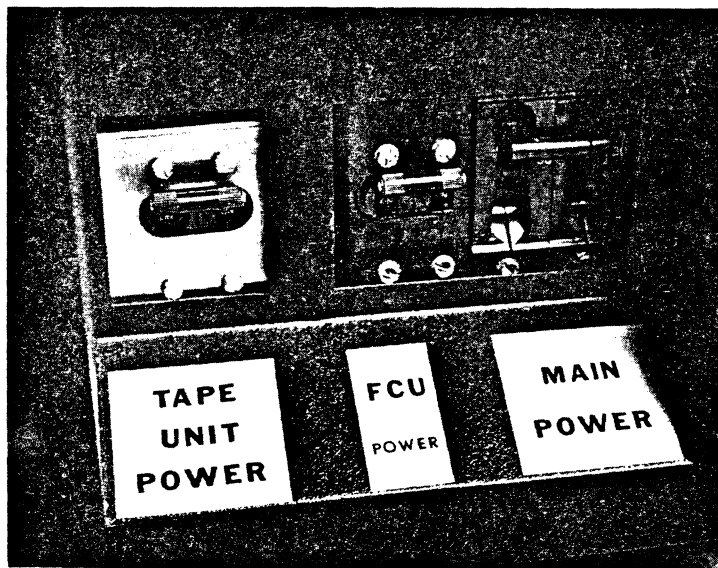

Figure 3-1. Tape Unit Circuit Brakers
1. Switch MAIN POWER, TAPE UNIT POWER, and FCU POWER¹ circuit breakers to the on position. These circuit breakers are located on the bottom right corner of the cabinet back (see Figure 3-1). AC PRESENT indicator will light.